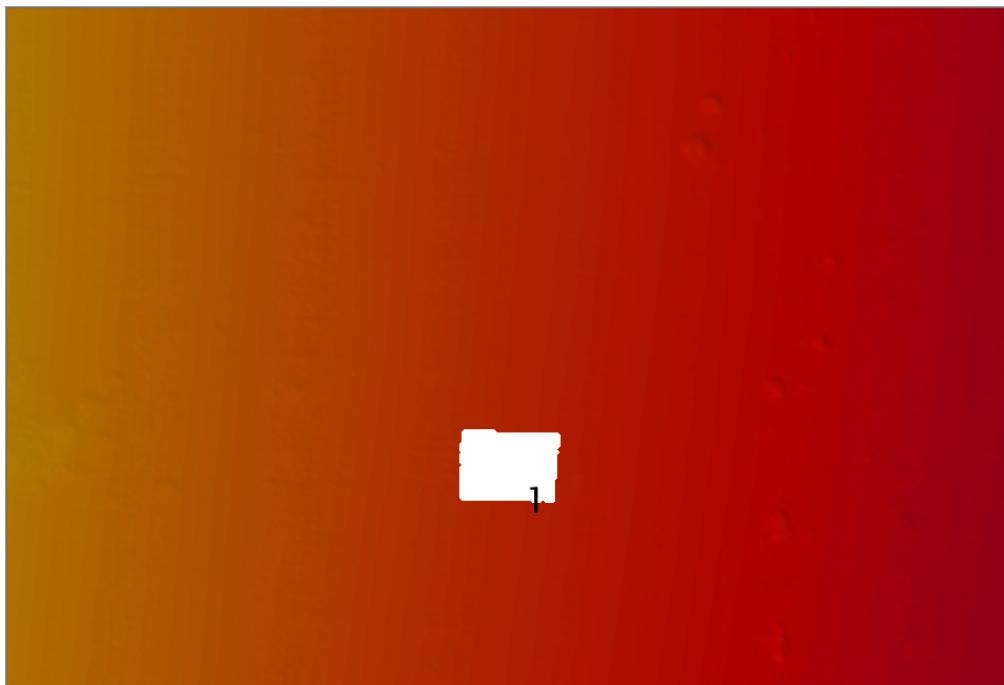

Fig. 2.25: An example of a certain holiday identified with a sounding.
**Detect Holidays** produces one .000 files containing the locations of potential holidays represented as soundings (Fig. 2.25). Certain holidays are represented with 1 and possible holidays are represented at 2.